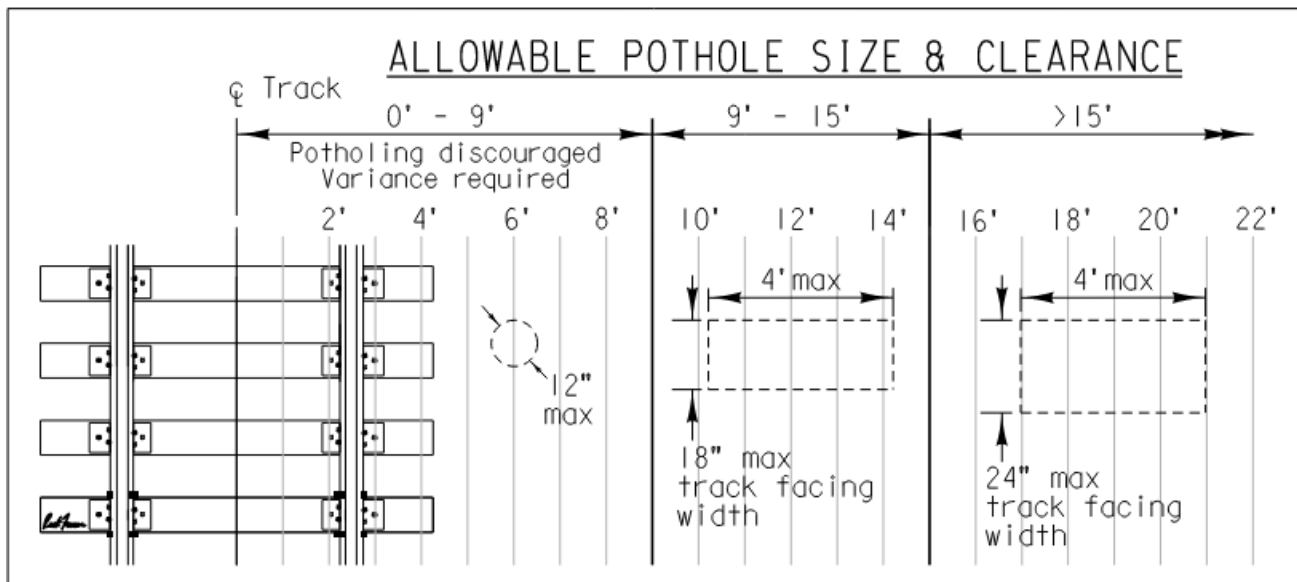

Figure 1
- ii. For any proposed pothole/excavation greater in size than allowed per Figure 1 and Section 3.1.
1. See Figure 1 below for allowable pothole size. Any proposed pothole greater in size shall follow the UPRR/BNSF Guidelines for Temporary Shoring.
- ii. Pothole excavation shall not exceed 18 inches x 4 feet, oriented such that the 18 inch dimension is parallel to the track, as illustrated in Figure 1.
- ii. Pothole excavation shall not exceed 24 inches x 4 feet, oriented such that the 24 inch dimension is parallel to the track, as illustrated in Figure 1.